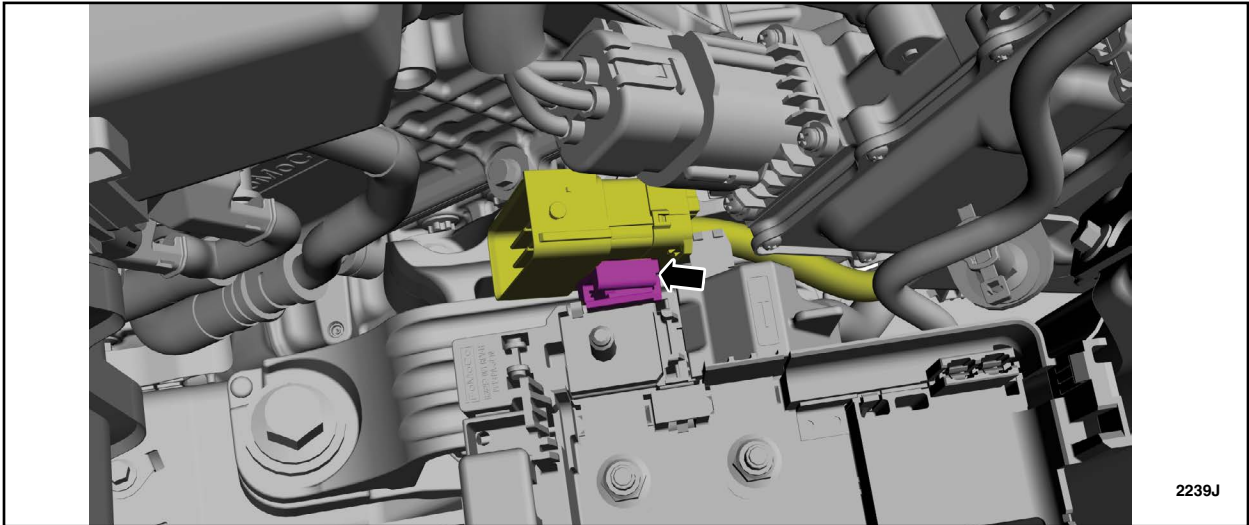

FIGURE 9
13. Release the wire guide from the battery junction box. See Figure 9.